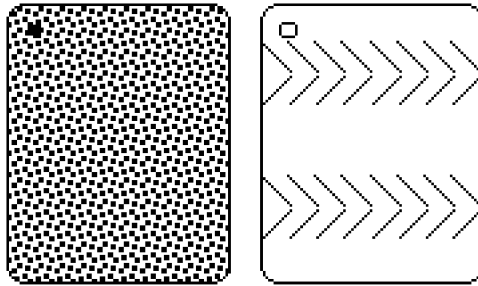

Figure 1-3. "Herringbone" patterns found in film packets.
1. Ia (iv) Note and place a check by the appearance of the herringbone pattern on the lead foil (Figure 1-3). Mount the unexposed, unprocessed film, one per partner.